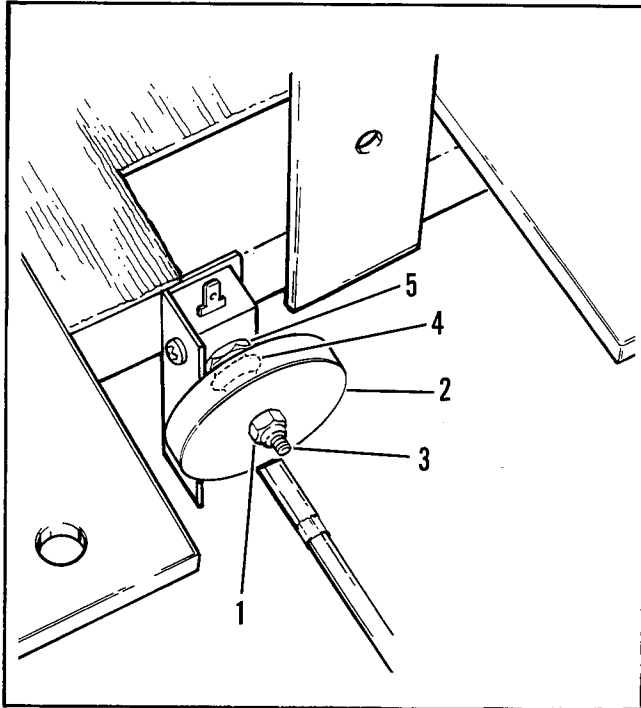
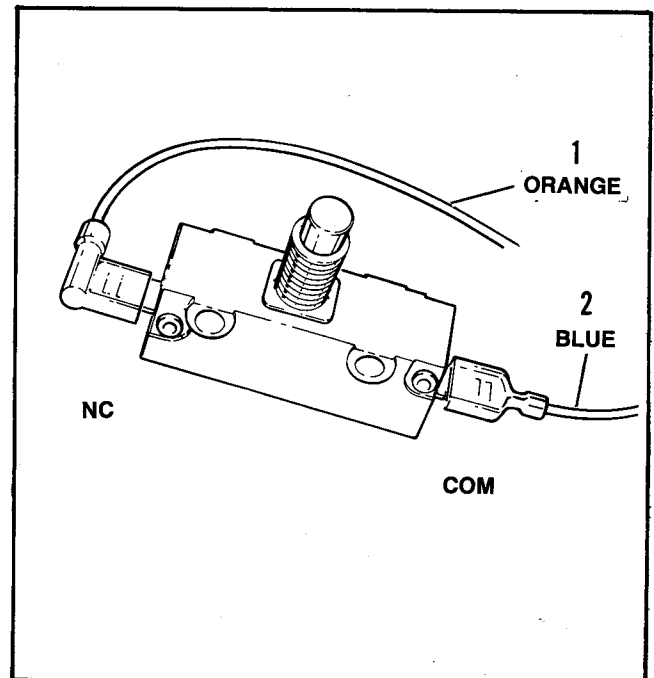

Figure 10-2 – Accelerator Micro-Switch
Figure 10-3 – Micro-Switch
ACCELERATOR MICRO-SWITCH (Figure 10-2)
- Remove wire connection to switch. See Figure 10-3. Disconnect single orange wire (1) and single blue wire (2).
- Reconnect single orange wire (1), single blue wire (2), Figure 10-3, and mount switch, Figure 10-2. Remount with common (COM) terminal down using two screws and speed nut plate.
- Install star washer, speed nut and plunger boot (4) to switch stem. Spin on cup (2) and locknut (1), Figure 10-2. The washer and speed nut prevent the boot from sliding down the stem and preventing microswitch contacts from closing.